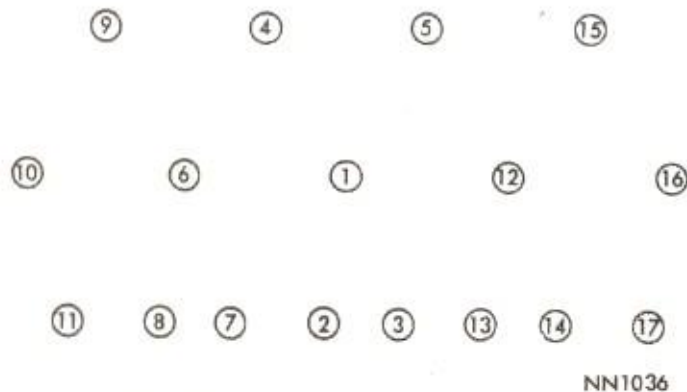
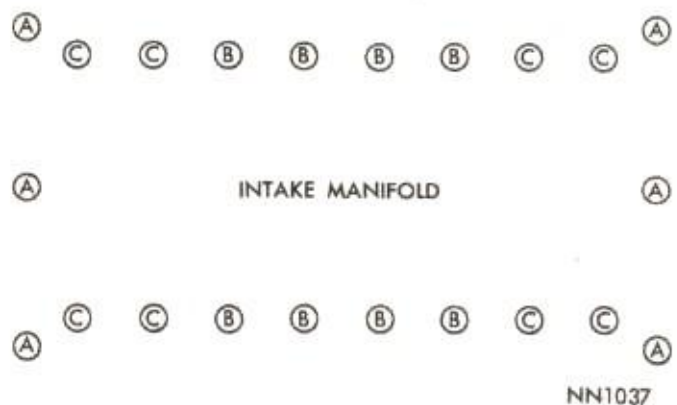

Fig. 7—Cylinder Head Tightening Sequence
Fig. 8—Intake Manifold Tightening Sequence
(3) Starting at the center, tighten all head bolts and stud nuts to 50 foot-pounds in sequence shown in Figure 7 then repeat the procedure, tightening to 75 foot-pounds in the same sequence.
(4) Adjust tappets. See "Tappet Adjustment Procedure".
(5) Install exhaust headers with new gaskets and tighten to 30 foot-pounds.
(6) Place new cylinder head cover gaskets in position and install cylinder head covers. Tighten nuts to 10 foot-pounds.
(7) Adjust spark plug gaps to .035 inch. Slide spark plug tube seals over tubes. With a six inch extension on a spark plug socket insert spark plug, slide spark plug tube over assembly, insert assembly in cover and cylinder head, being careful not to drop plug as this would change gap setting. Tighten spark plugs to 25 foot-pounds.
(8) Install new intake manifold gaskets and intake manifold. Refer to Figure 8 and tighten screws marked "A" to 48 inch-pounds, screws marked "B" to 72 inch-pounds, and screws marked "C" to 48 inch-pounds. Repeat the tightening procedure in the sequence shown until all screws maintain their specified torque.
(9) Connect fuel line, automatic choke, intake manifold heat tubes, transmission throttle rod to upper bell crank, accelerator cable and adjust as necessary.
(10) Install crankcase ventilation hose, distributor cap with spark plug cables, and coil wire and cable.
(11) Install alternator, battery ground cable and heater hoses if removed.
(12) Connect power brake booster, if so equipped, and bleed brakes.
(13) Fill the cooling system. Start engine and check for leaks.
(14) Adjust ignition timing and carburetors to specifications. Road test vehicle.